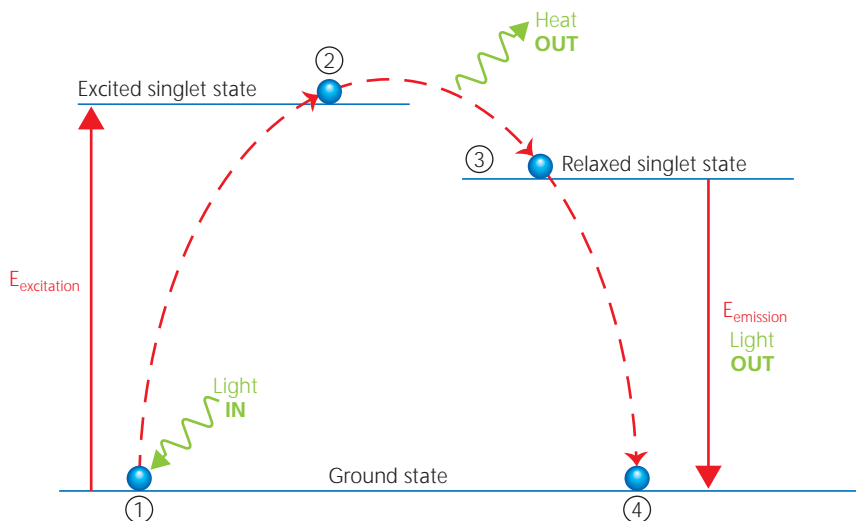

FIGURE 6 Stokes Shift
fluorochrome and is depicted in Figure 6 as $E_{\text{excitation}}$. This state only lasts for 1–10 nanoseconds because the fluorochrome undergoes internal conformational change and, in doing so, releases some of the absorbed energy as heat. The electrons subsequently fall to a lower, more stable, energy level called the 'relaxed electronic singlet state' (3). As electrons steadily move back from here to their ground state they release the remaining energy (E_{emission}) as fluorescence (4).